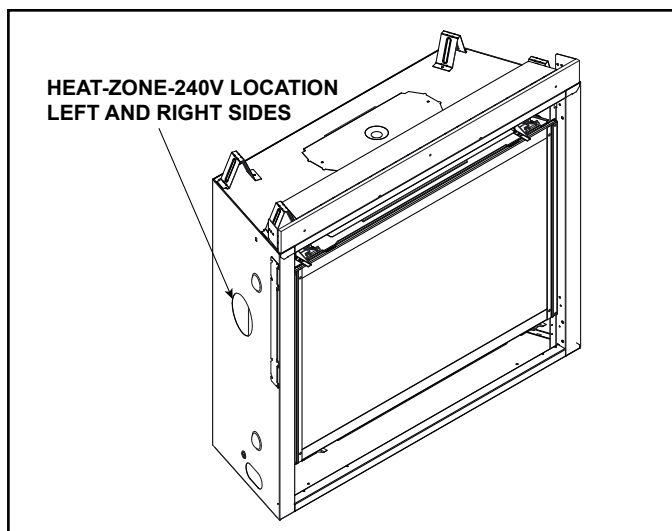

Figure 6.13 Heat-Zone-240V Locations
- Locate the Heat-Zone-240V ports on the left and right sides of the appliance. Either one or two Heat-Zones-240V may be installed. See Figure 6.13. Remove the knockout(s) from the appliance with a tin snips.